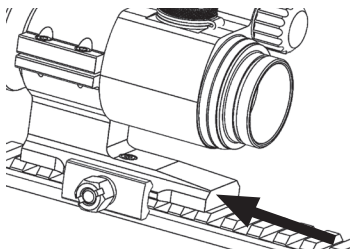

Fig. 4
- d. Push the mount forward (Fig. 4). The recoil stop shall be in contact with the front edge of the groove.